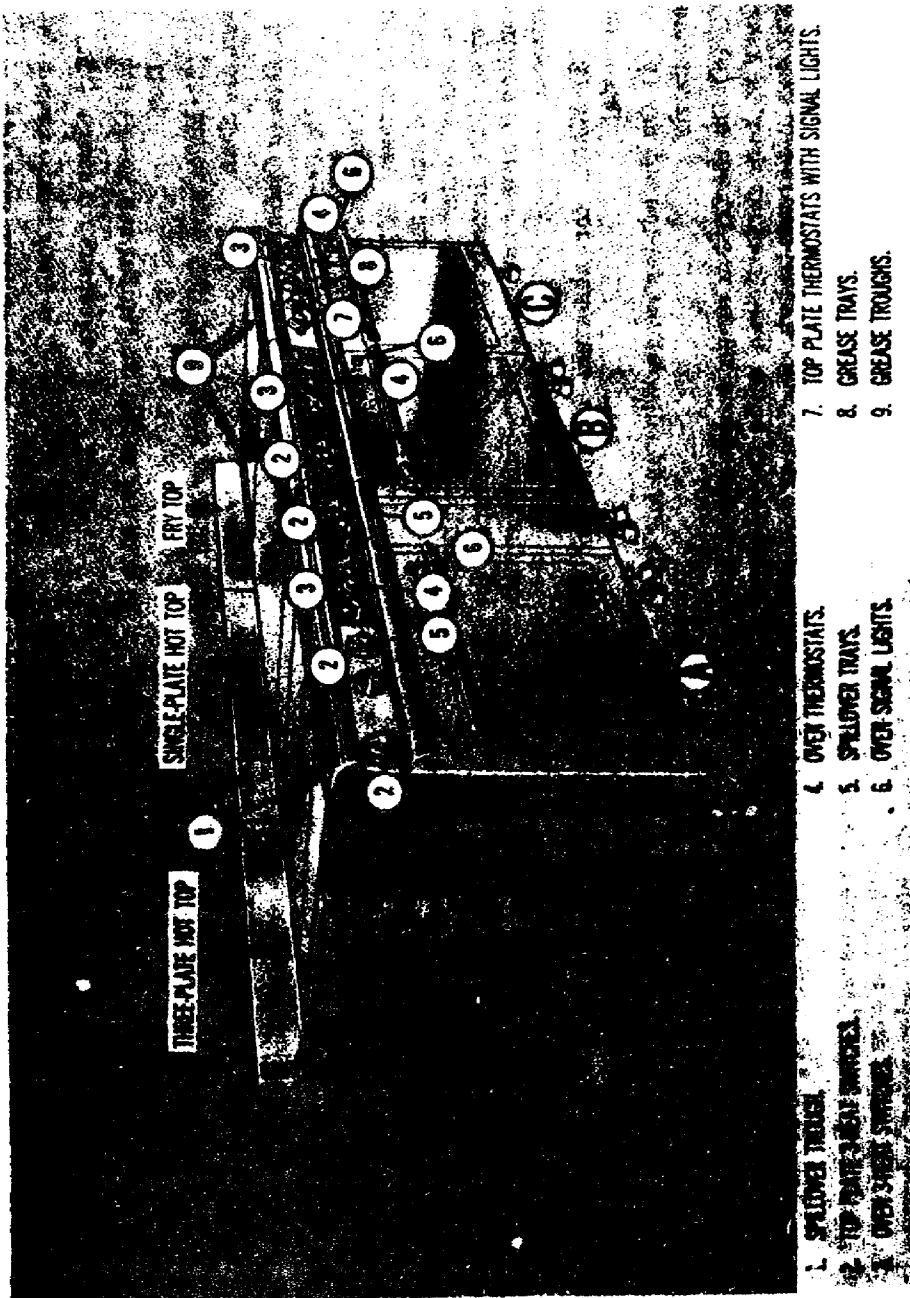

Figure 9. Electric range, hot and fry tops.
(4) Weekly services. Each week, or more frequently if necessary, the top plates of the range should be lifted out and any soot accumulated on the undersides should be removed. The underside should be brushed with a wire brush. The burners should be removed and the ports cleaned out with a wire brush. The burners should not be dipped or submerged; water rusts their interior surfaces and restricts gas flow.
(5) Monthly services. The operator lubricates the oven door hinges with light lubricating oil monthly.
11. HEAVY-DUTY ELECTRIC RANGE. This range (fig. 9) is a single unit consisting of a top section for surface cooking and an oven. It may be a hot-top or fry-top range equipped with three separate, individually controlled heating units. These are electrical-resistor, inclosed tubular heating units embedded in the underside of the grill (rather than exposed on the range top). Grease troughs are provided at both the front and back of the range top. These troughs empty into a removable grease pan located below the top control panel. The oven has a bottom-hinged door, an adjustable, removable shelf, and a vent damper controlled by a lever near the vent cover. The oven controls are located on the lower control panel, and the fuse compartment is immediately below this panel. Two three-heat switches control the upper and lower oven burners, and the oven thermostat controls oven temperature. The oven is also equipped with a signal light that indicates when the oven is heating and when it has reached the desired temperature. Each of the top units is controlled by a three-heat switch or an adjustable thermostat, and each may be turned on independently. A signal light for each burner comes on when current is flowing to that unit and goes out when the preset temperature is reached.